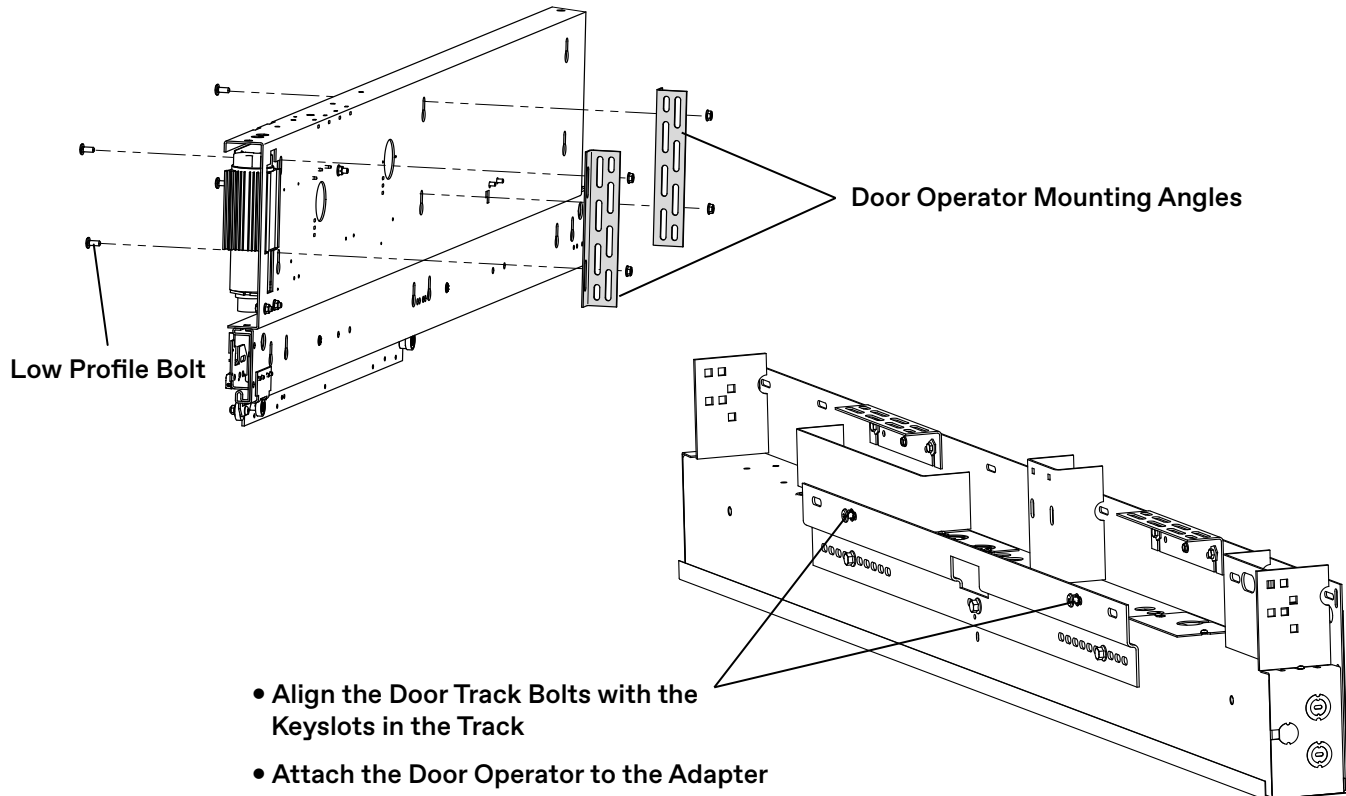
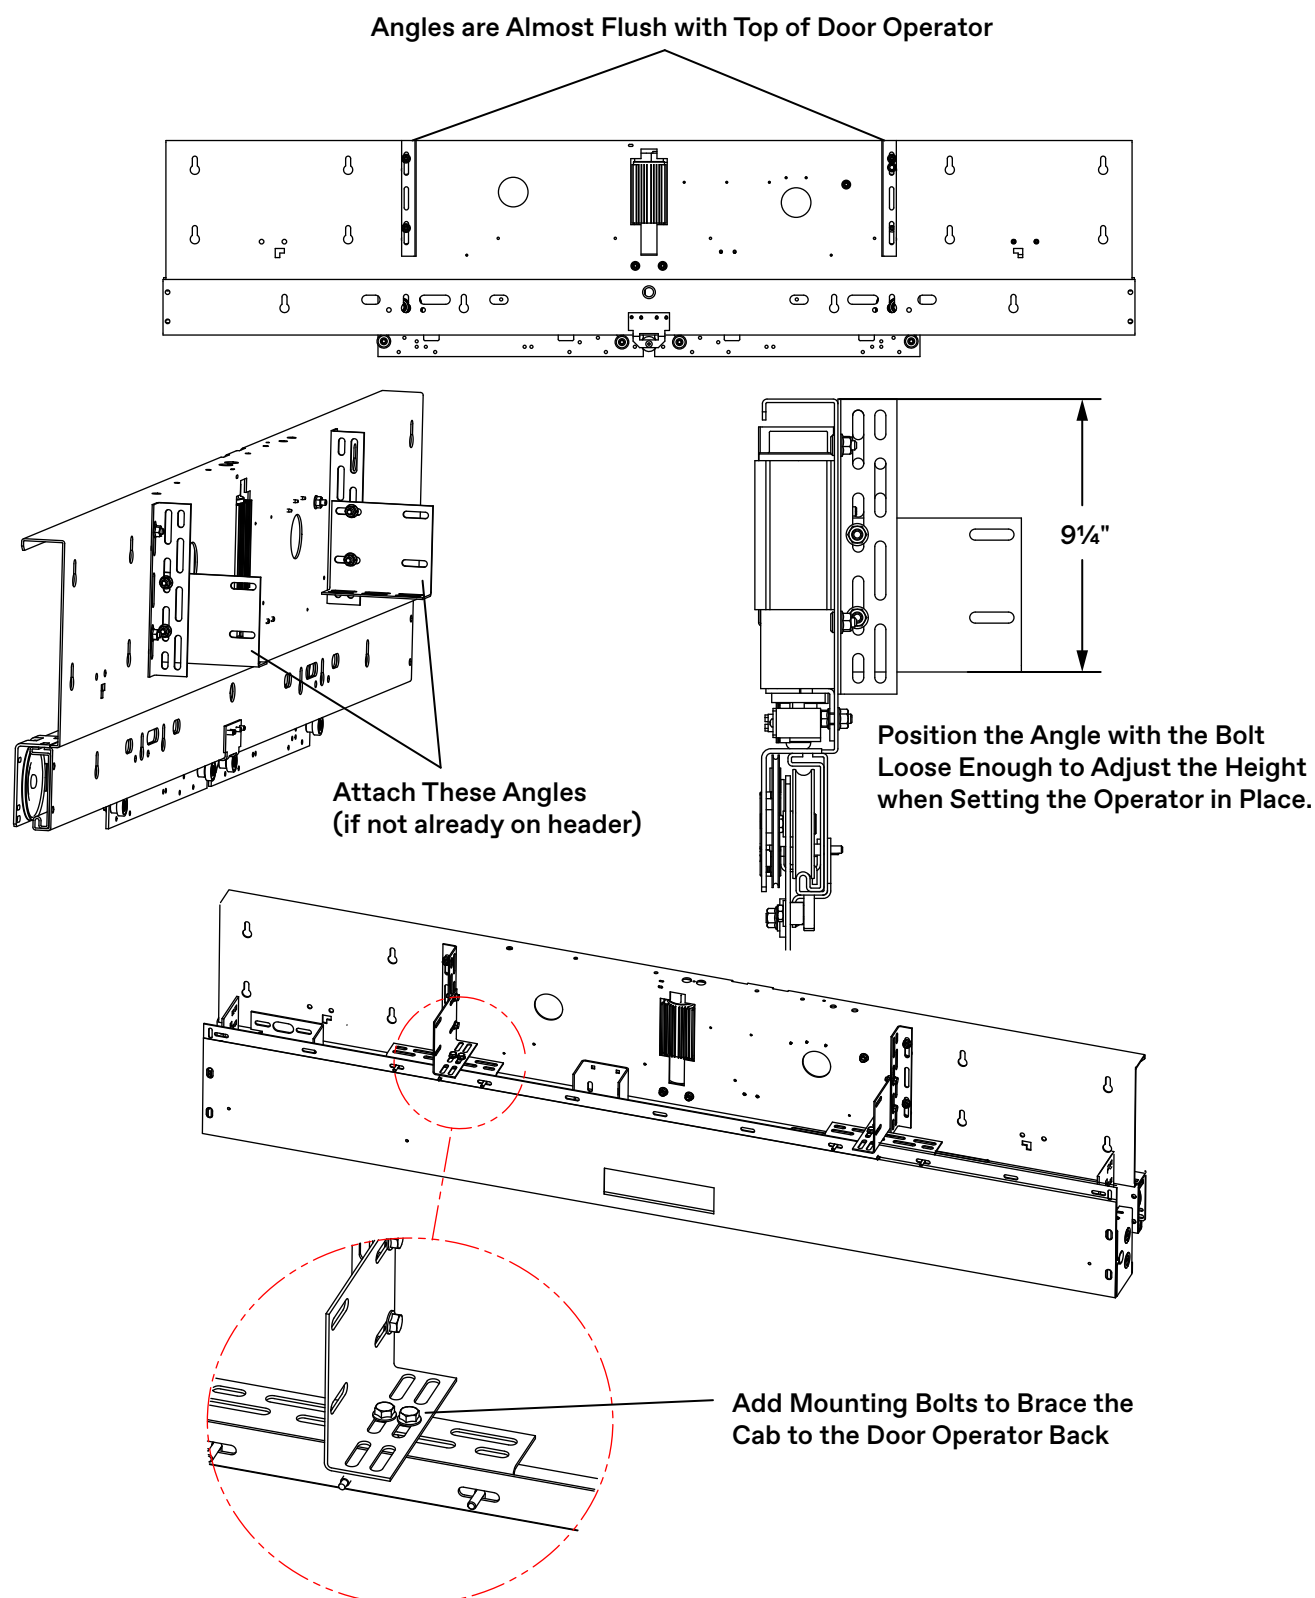

Figure 20 - Door Operator Machine Installation (1 of 2)
Figure 21 - Door Operator Machine Installation (2 of 2)
9. Install the door operator to the adapter angle. See Figure 20 below and Figure 21 on page 25.